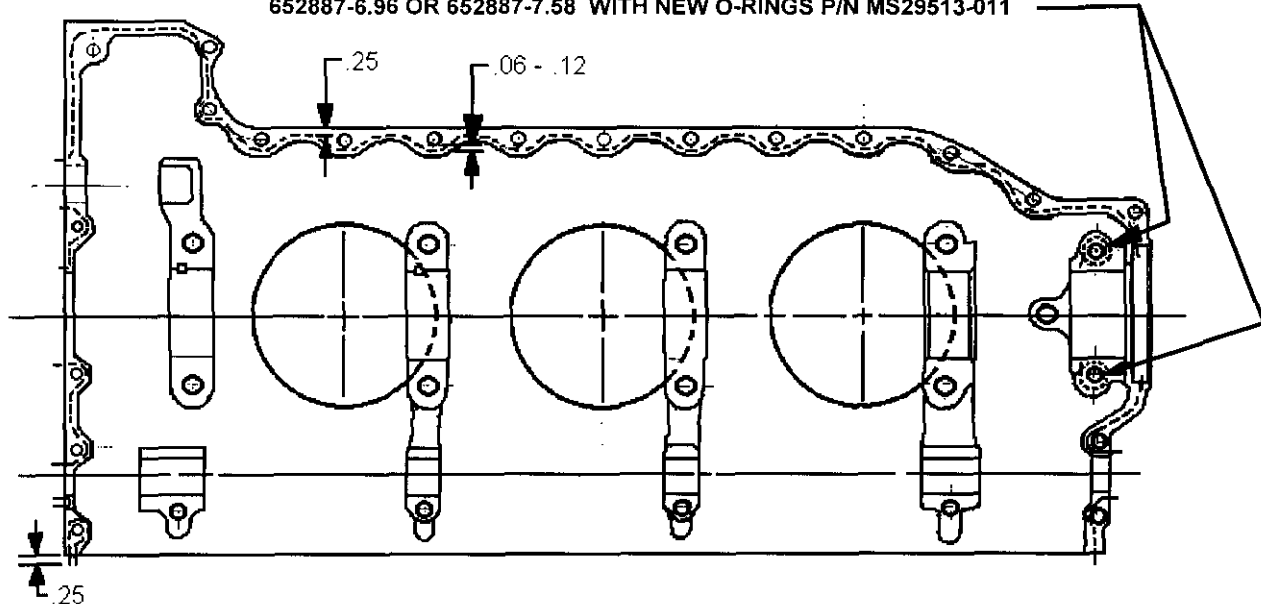

FIGURE 5. I0520, TSI0520, I0550, TSI0550 PERMOLD ENGINE CRANKCASE THREADING DIAGRAM
4. Apply and position grade D silk thread P/N 641543 on 2-4-6 case half as specified in Figure 5. Be sure free ends of thread are covered by gaskets except at the nose oil seal.